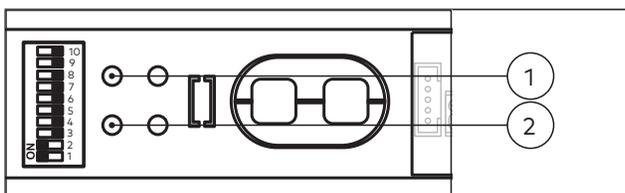

Fig. 59 Start learning cycle
- ▶ LED flashes green (Fig. 59/1).
3. Press the reset button on the drive for more than 3 seconds (Fig. 59/2).